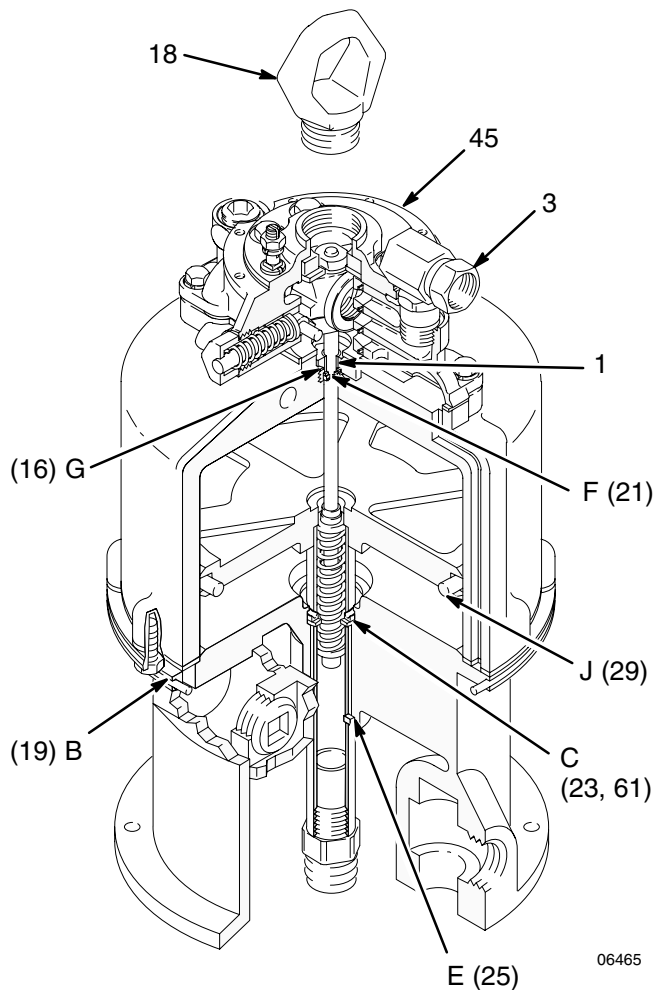

Fig. 2
To restart a stalled motor, remove the lift ring (18) from the detent housing (45) and use a screwdriver to push the air valve housing (30) down. See Fig. 2.
To locate an air leak, shut off the air supply and disconnect the air hose. Screw the inlet union (3) out of the air manifold (41). Remove the shield (51), then screw the union back into the manifold. Connect the air hose and turn the air on. Do not exceed 40 psi (0.28 MPa, 2.8 bar) incoming air pressure. Use the checking methods listed below in the Check Chart to find where the air is leaking. Refer to Fig. 2.